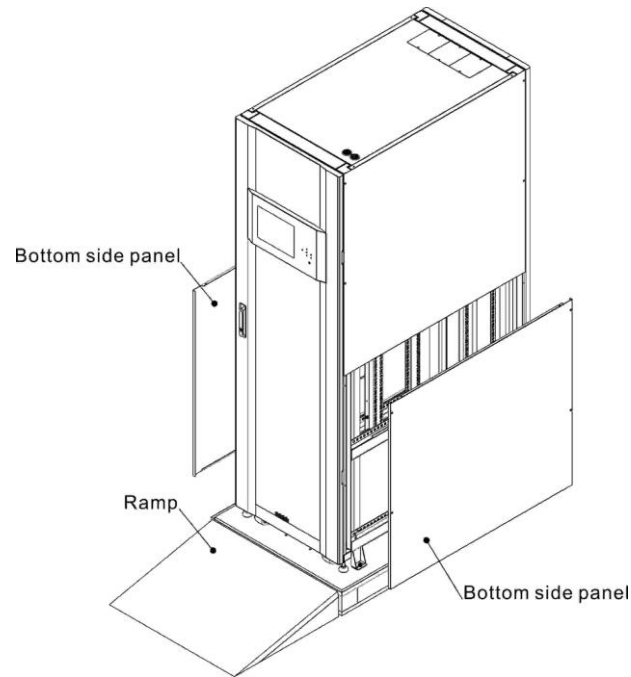

Figure 2-3
- Put a ramp in the front of the cabinet and insert small wood into groove. Then, remove two side panels. Refer to Figure 2-3.